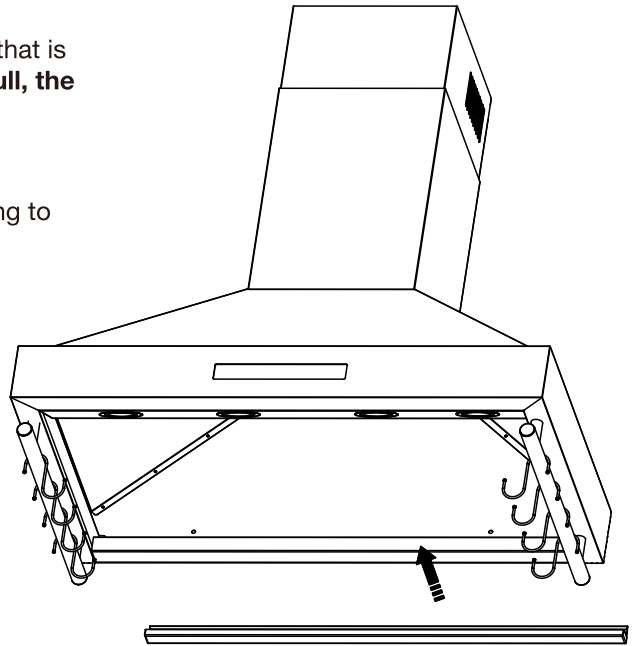

Figure 7
- Angle and insert the oil cup on the rear end of the unit, and push into place (see Figure 7).